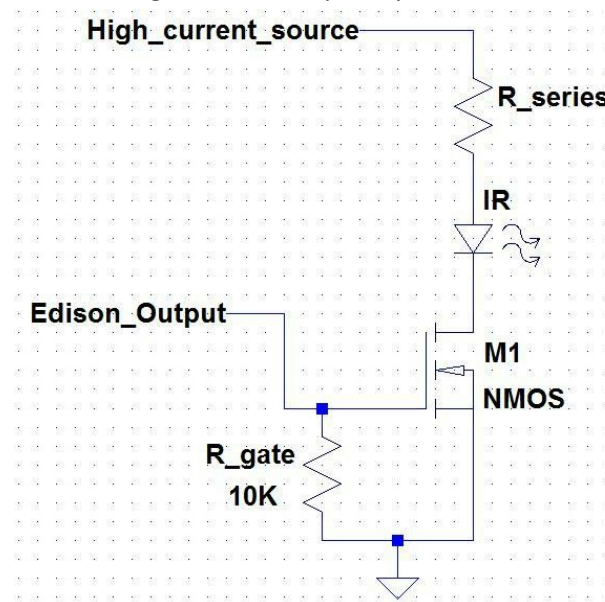

Figure 4. Schematic of MOSFET driver circuit
- b. Use a MOSFET driver PCB as shown in figure 4